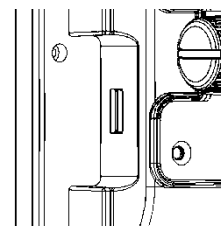

Figure 77
1. Insert the memory drive into the right side of the panel. See Figure 77.